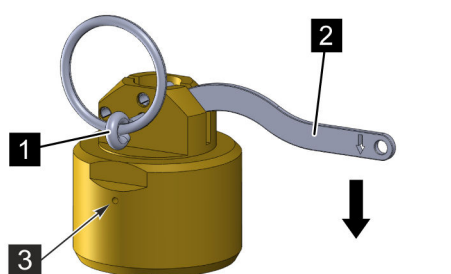

Fig. 30: Activating
1. ➤ Pull the safety pin (Fig. 30/1) out of the manual release device.
2.  *When the release lever is operated, the upper valve chamber in the valve is vented. Pressurized gas flows through it through a pressure relief hole in the cap nut of the release device (Fig. 30/3).*
3.  Press down the release lever (Fig. 30/2) of the manual release device as far as it will go (Fig. 30/arrow) and hold it down for 5 s.